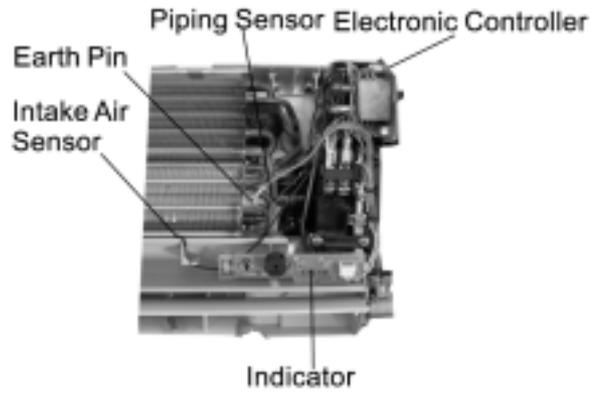

Fig 5
2. Release the drain hose and the intake air temperature sensor and piping temperature sensor and remove the discharge grille. Release the earth lead wire on the evaporator. (Fig 5)